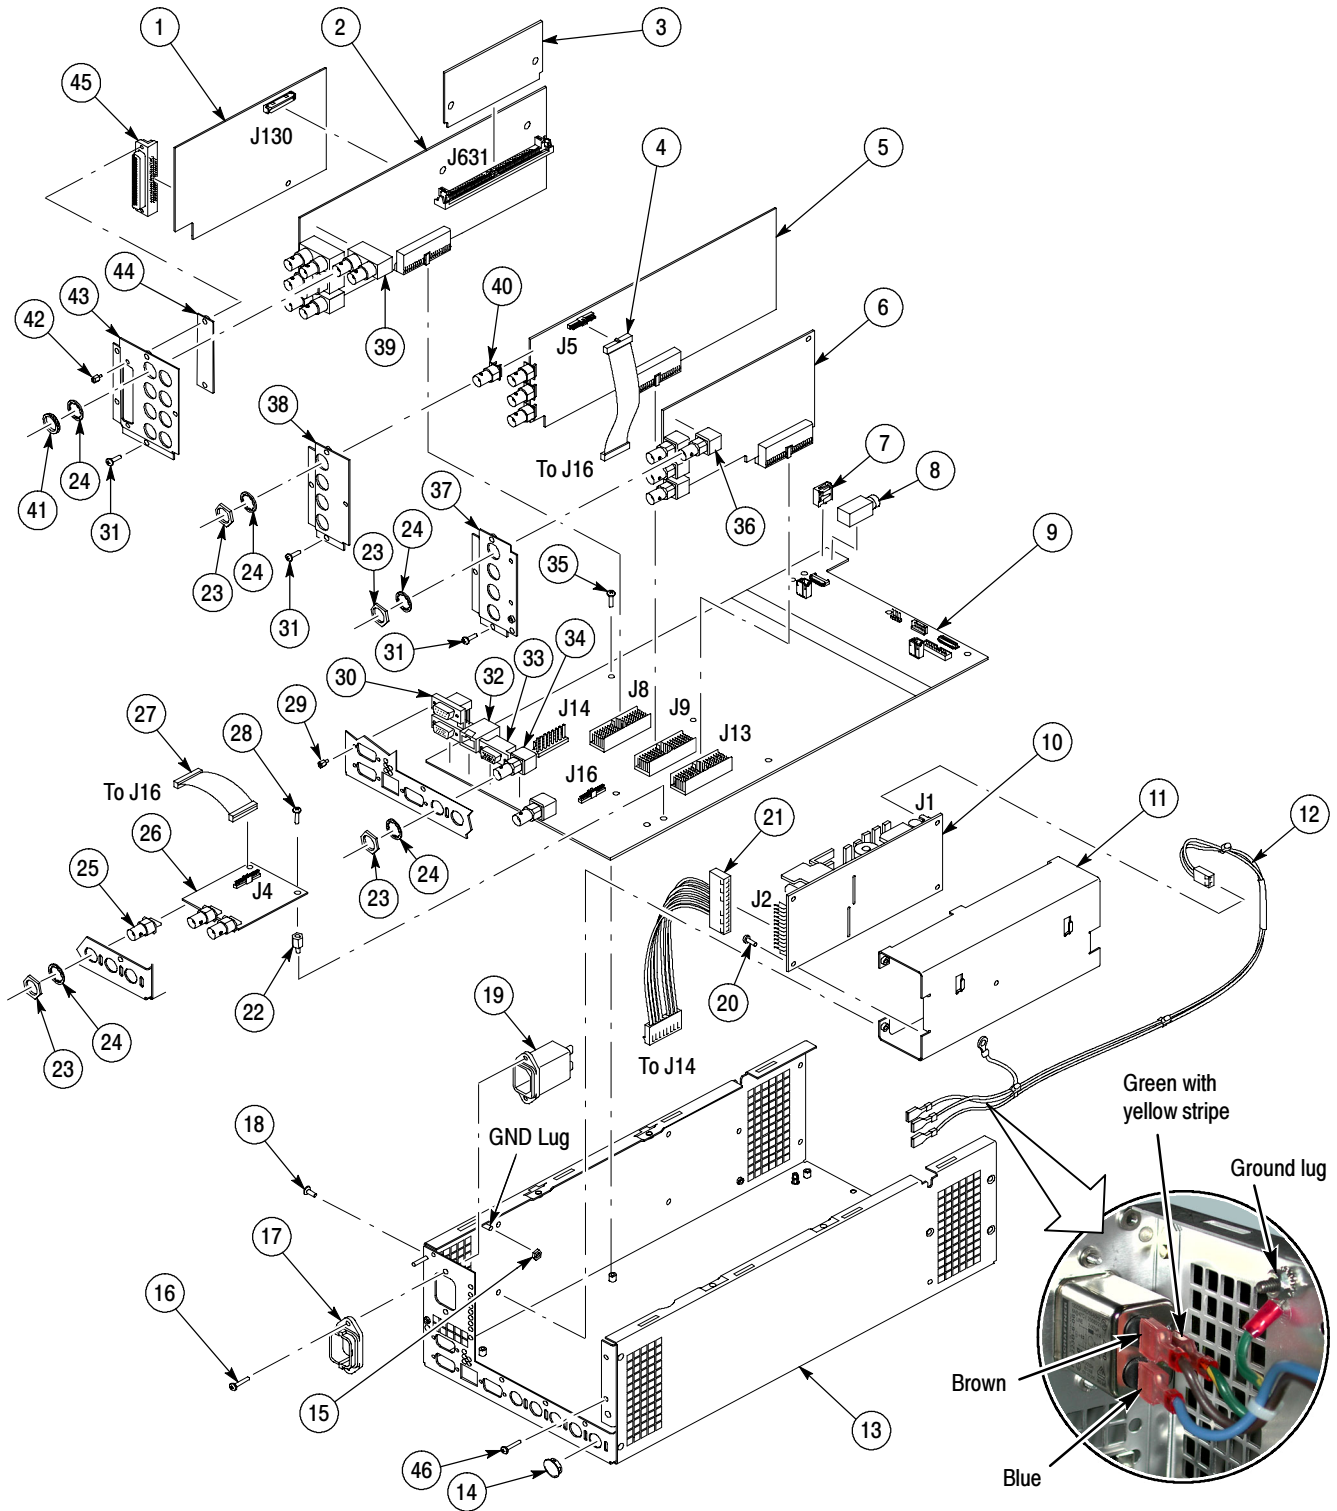

Figure 5-1: Circuit boards and connectors
**Replaceable mechanical parts (Figure 5-1) (Cont.)**